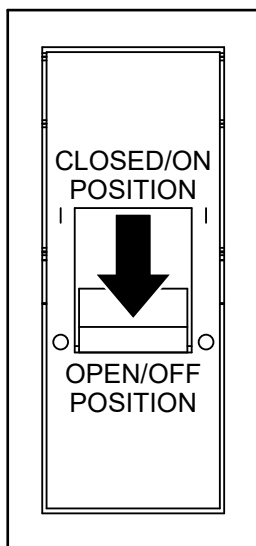

Figure 117. Main Circuit Breaker (Open/OFF)
4. **On generator #1**, place the **main circuit breaker** in the **OPEN (OFF)** position. See Figure 117.